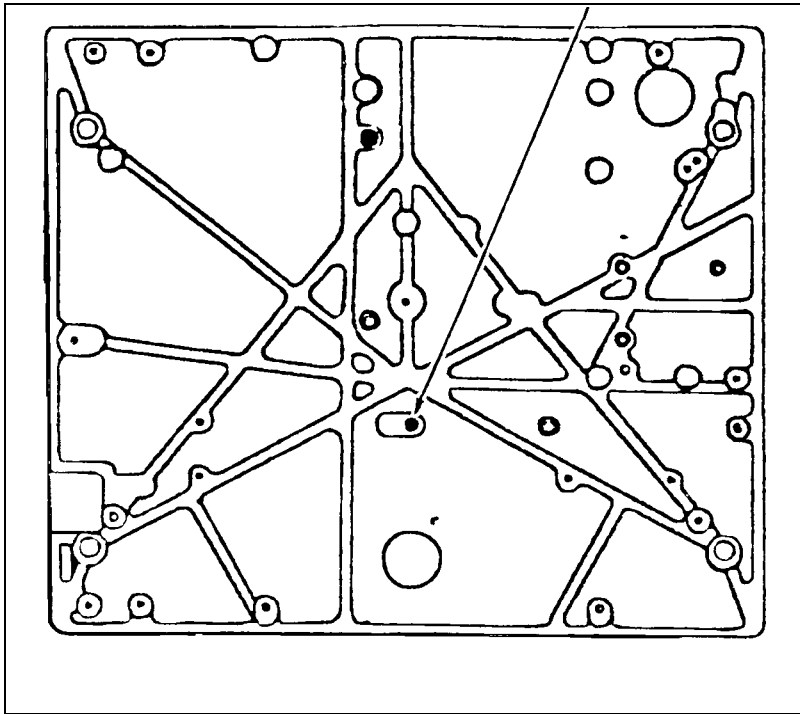

FIGURE 7
3. Loosen the backstroke screw an amount sufficient to allow removal of the load cell strut. See Figure 7.